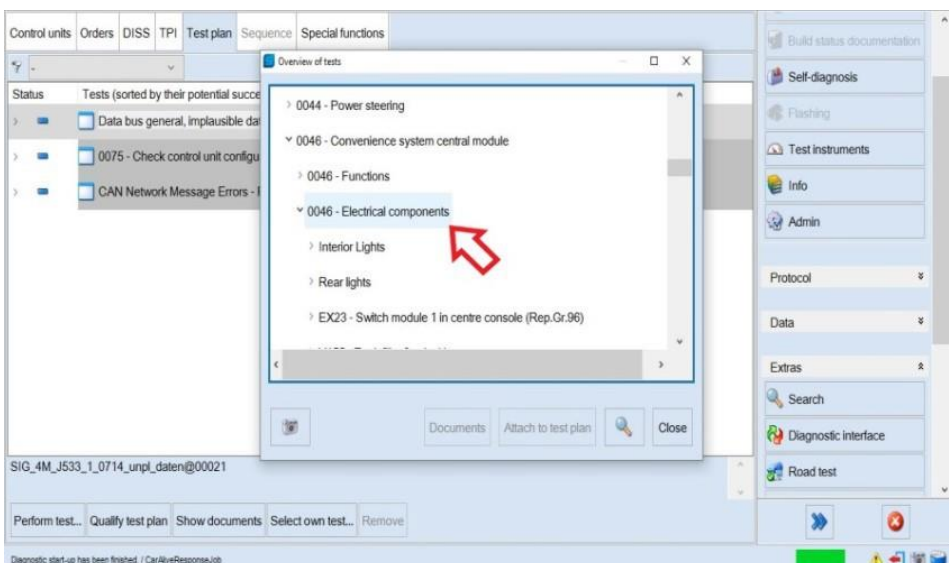

Figure 4
- Select > 0046 - Electrical components (Figure 4)